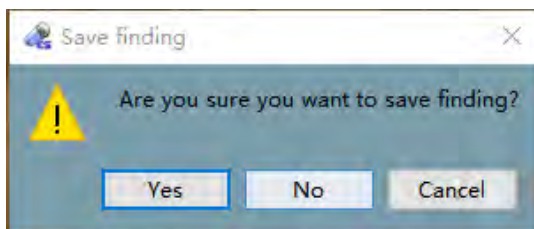

Figure 4-78: Save Finding Dialog Box
2. If a case report is changed, the user will be presented with the save finding dialog box (Figure 4-78) upon exit, where the user can click "Yes" to save findings, "No" to exit without saving findings, or "Cancel" to cancel exit.